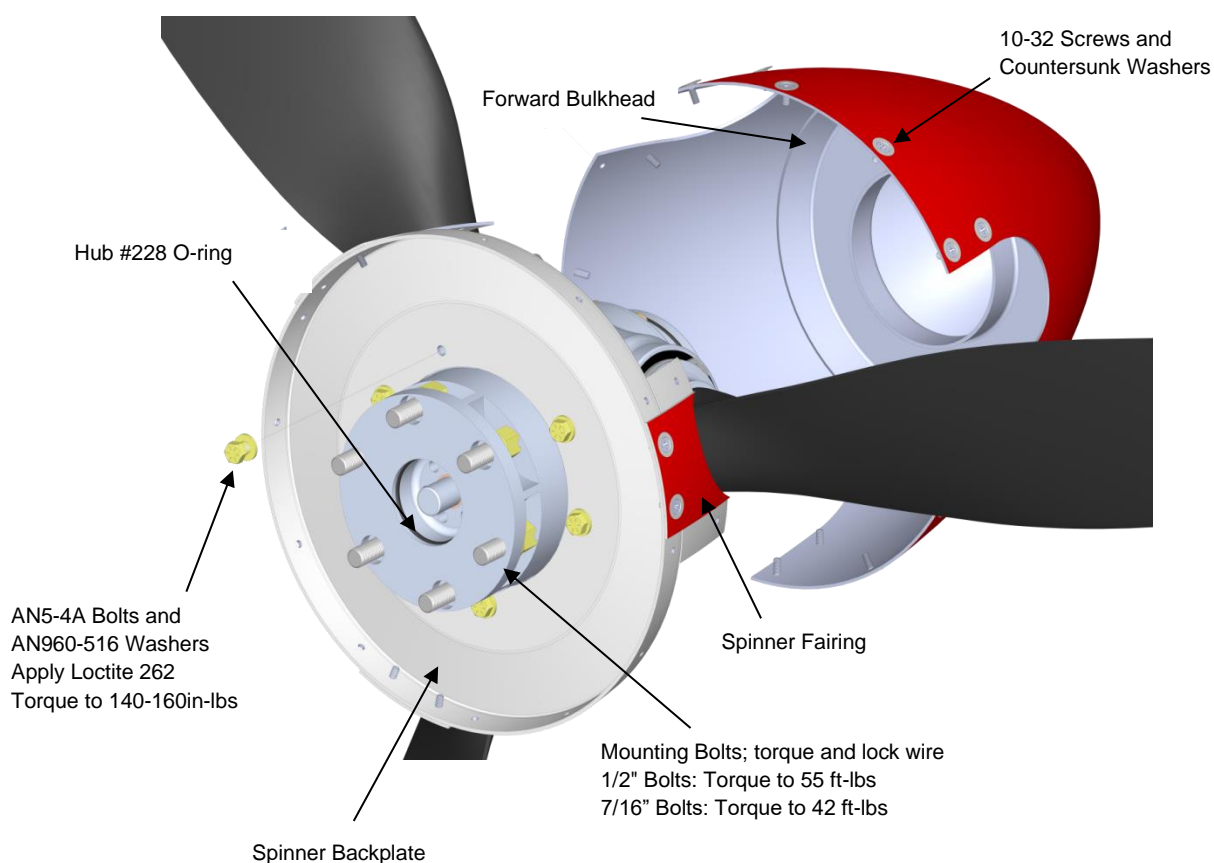

Figure 3. Spinner Assembly
1. **Spinner Back-Plate:** The spinner back-plate must be positioned on the hub such that the spinner dome blade cutouts can line up with the blades (see Figure 3). The spinner and back-plate have been number or letter coordinated to match the blade cutout openings. Place a washer on each of the 5/16" AN5-4A bolts and install the back-plate on the hub so the back plate flange cups away from the blades. Torque the bolts to 160in-lbs.
7. **FLANGE BOLTS:** Check mounting bolts for torque (see Figure 3 on page 8.)